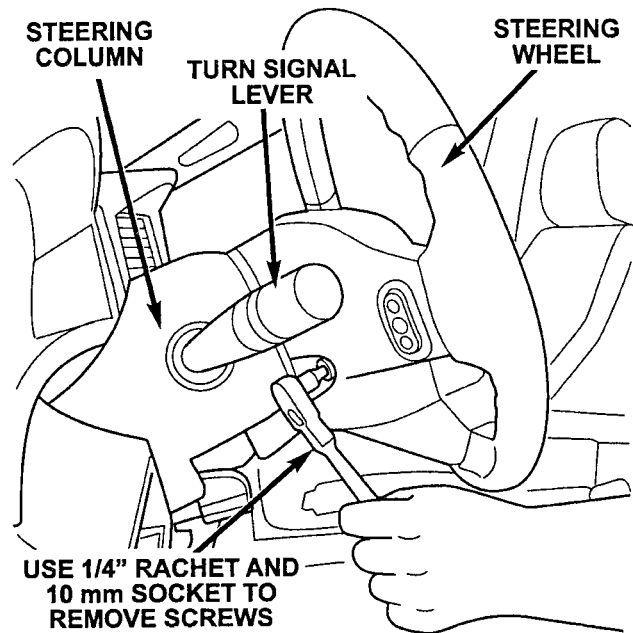

Figure 1
2. From the underside of the steering wheel, remove the two screws that secure the driver’s side airbag to the steering wheel (Figure 1).
14. Install and tighten the two screws that secure the airbag to the steering wheel. Tighten the screws to 90 in. lbs. (10 N·m) (Figure 1).